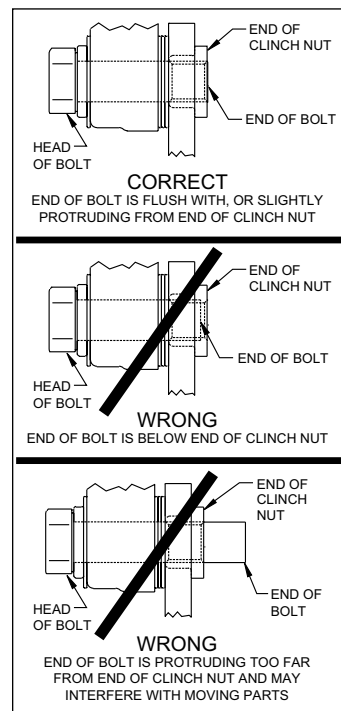

Figure 3. Clinch Nut Engagement Diagram
CAUTION: All mounting bolts must fully engage clinch nuts. Be sure to check that all bolts are either flush or protruding through flanged side of clinch nut after shimming, Figure 3.
STEP 8 **NOTE:** Please reference the caution statement at the beginning of the assembly instructions. Mount the caliper (8) onto the caliper mounting bracket (1) using bolts (9) and washers (10), as shown in Figure 1. Initially place two .035" thick shims (11) on each bolt between the caliper and the bracket, Photo 6. Temporarily tighten the mounting bolts and view the rotor (3) through the top opening of the caliper. The rotor should be centered in the caliper, Photo 7. If not, adjust by adding or subtracting shims (11) between the bracket and the caliper. Always use the same amount of shims on each of the two mounting bolts. **NOTE:** The end of each bolt must be flush with or slightly protruding from the head of the clinch nut, as shown in Figure 3. If necessary place spare shims between washer (10) and caliper mounting ear to achieve the proper clinch nut engagement. Once the caliper alignment and clinch nut engagement are correct, remove the bolts one at a time, apply red Loctite® 271 to bolt threads, and torque to value shown in Figure 1.
STEP 9 Remove the caliper pad retainer cotter pin from the caliper. Insert the brake pads (12) into the caliper, with the friction material facing the rotor, Photo 8, and secure in place using the pad retainer cotter pin as shown in Photo 9.